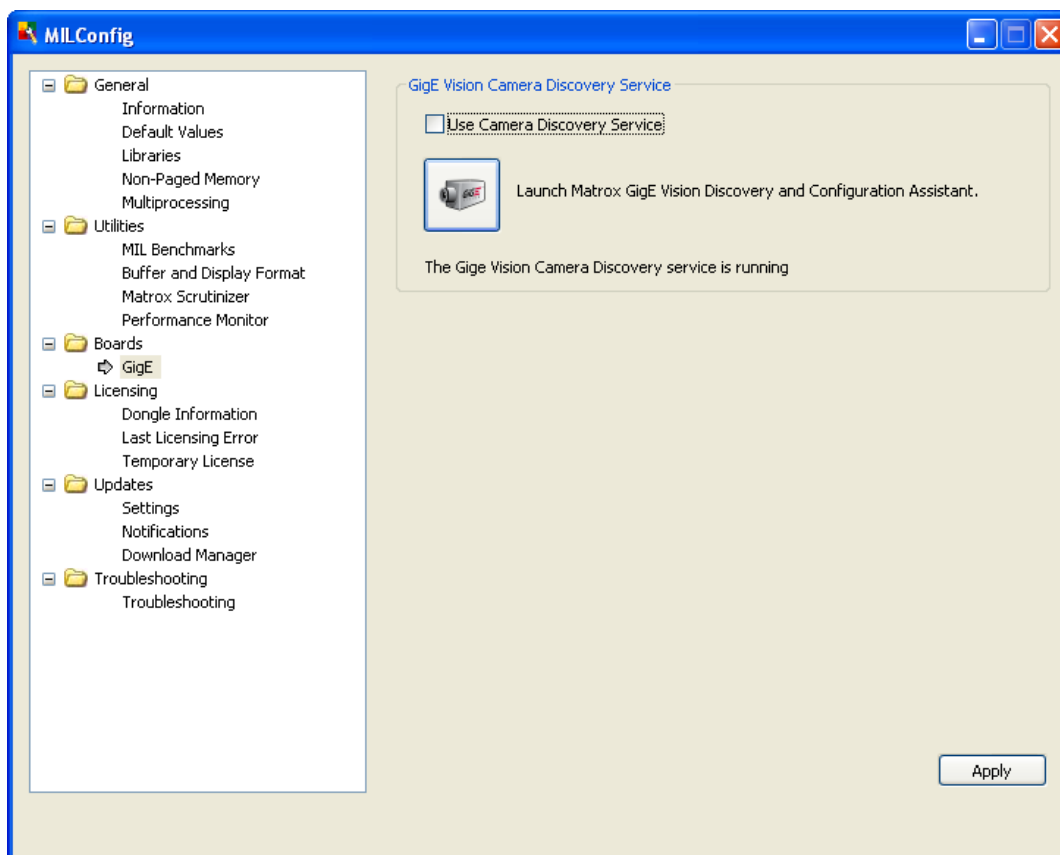

Figure 5.3: MilConfig
1. Open MilConfig (Start -> All Programs -> Matrox Imaging -> Tools -> MilConfig) and click on Boards -> GigE (see Fig. 5.3). For maximum performance it is recommended to uncheck Use Camera Discovery Service. Click on Launch Matrox GigE Vision Discovery and Configuration Assistant.